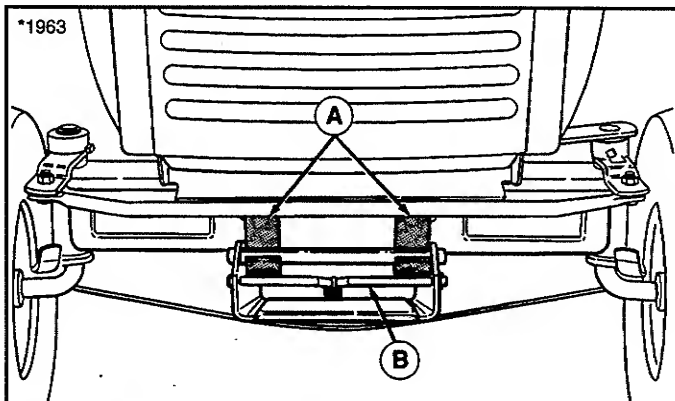

Figure 6. Mower Hitch
3. See figure 6. Turn wheels straight. Pull back on the spring-loaded lever (B) while lifting up on the mower hitch. Install mower hitch onto tractor hitch brackets (A). When properly installed, the spring-loaded lever should seat fully underneath the brackets.